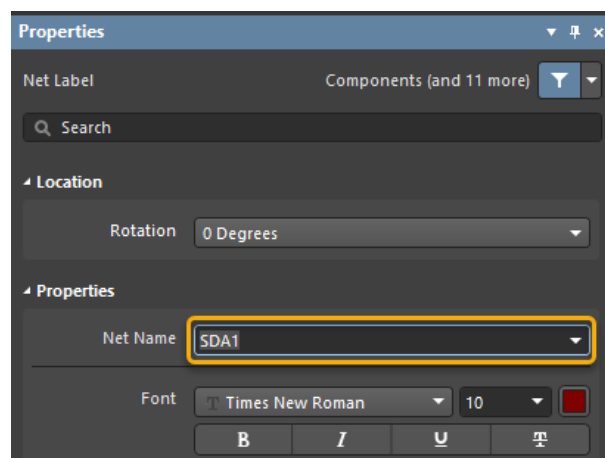

Figure 20. SDA1 Net Label Properties
28. Enter **Net Name** SDA1 as shown in Figure 20.